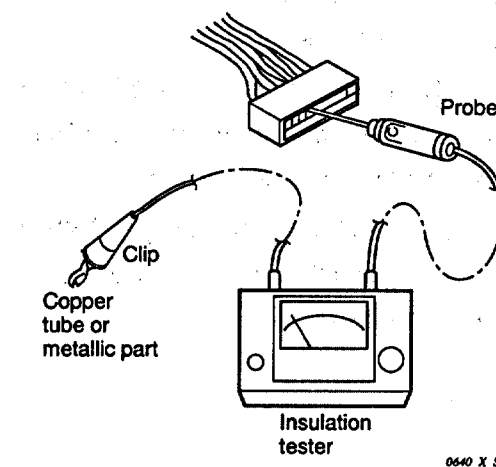

Fig. 8
- Disconnect the connector of the desired electric part from terminal plate, P.C.B. Ass'y, etc. (Fig. 8)